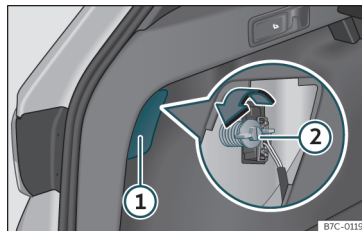

Fig. 91 Boot: access to the bolt securing the tail light unit.
3. Remove the lid, levering it with the flat side of a screwdriver into the recess »» Fig. 91 ①.
5. Unscrew the light securing bolt by hand or using a screwdriver »» Fig. 91 ②.